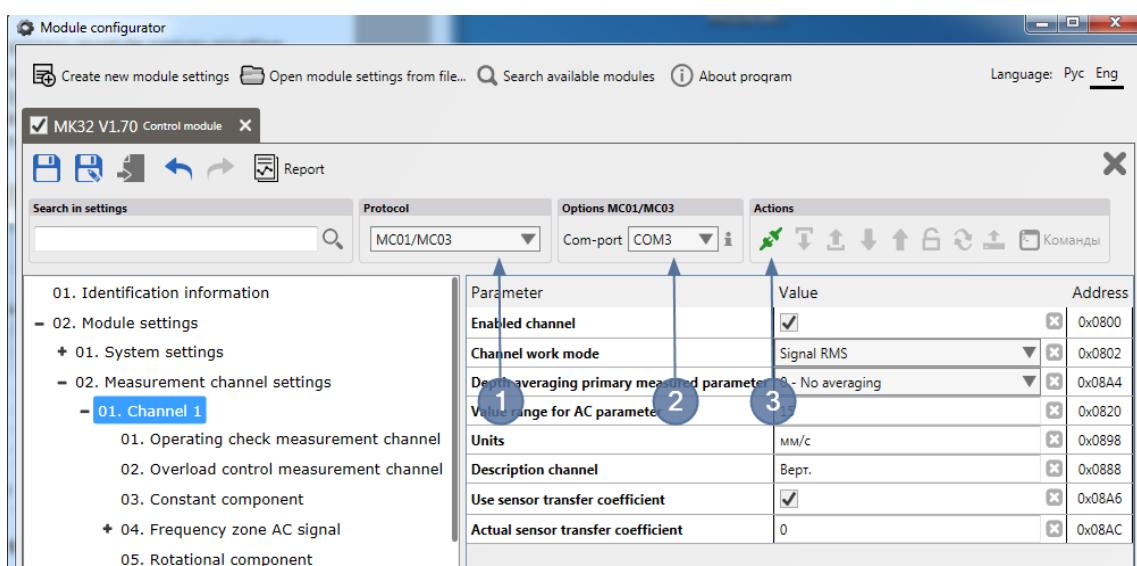

Figure 17 - Module connection procedure
3) in communication types list (Figure 17, item 1) select necessary module communication protocol, corresponding to the selected communication interface, for example if a module is connected using MC01, it is necessary to select communication type MC01/MC03;
4) in settings of the selected communication type, in this case MC01/MC03, select a com-port to which a module is connected to from a list of available com-ports (Figure 17, item 2).
5) press button “Connect” (Figure 17, item 3).